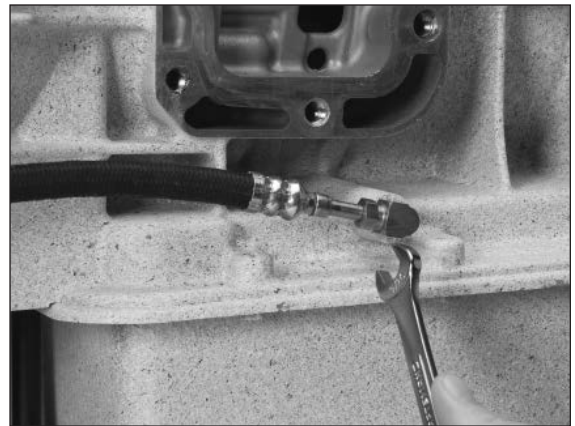

Figure 72
5. Connect hose (Transmission-to-Hydraulic Valve) to the fitting on the transmission. Route as shown in (**Fig. 72**). Hold hose fitting in desired position and tighten lock nut with a wrench until solid feeling is encountered. From that point, apply one-sixth turn.